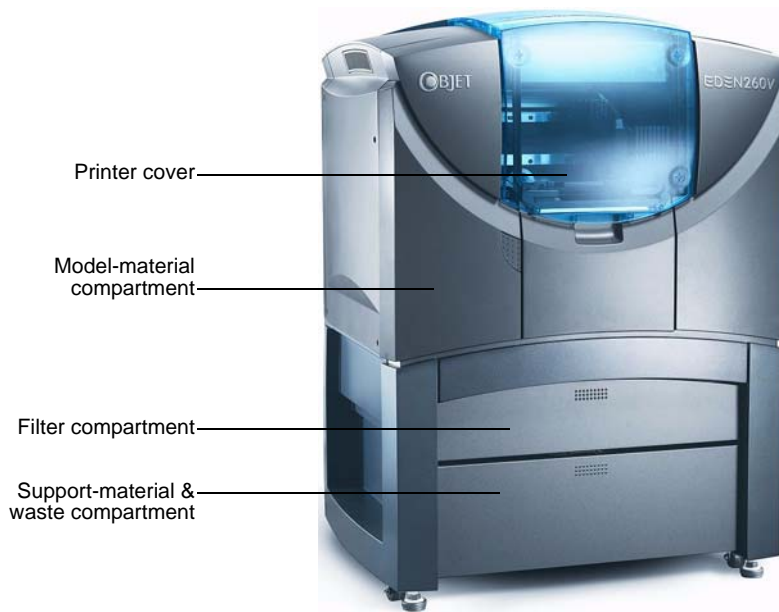

Figure 6-1: The Eden260V 3-D Printer
1. On the front of the printer (see figure 6-1), push the door of the relevant storage compartment to release and open it.